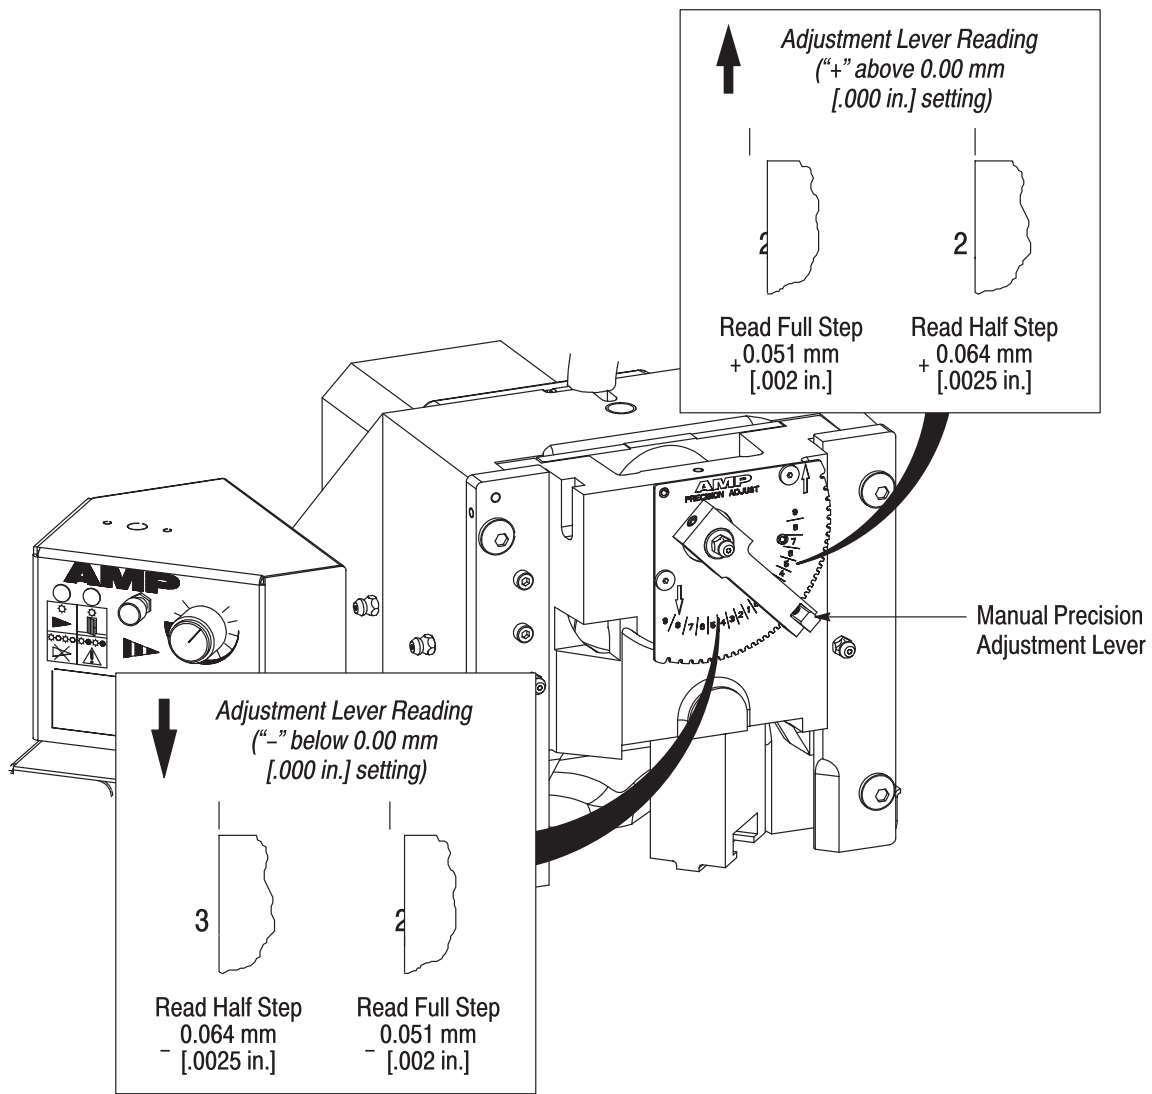

Figure 12
6.2. Crimp Height Adjustment Using Precision Adjustment Mechanism (Refer to Figure 12)**CAUTION**